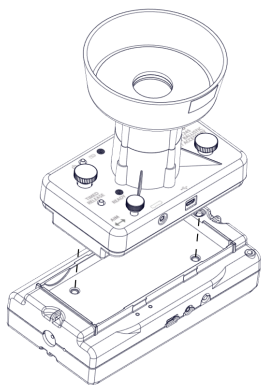

Figure 1. Placing the Smart Ballistic Cart in a Smart Cart.
1. Place the Smart Ballistic Cart Accessory in the accessory tray of the cart. For a Smart Cart, make sure that the ports on the accessory are on the same side as the ports on the cart (Figure 1).